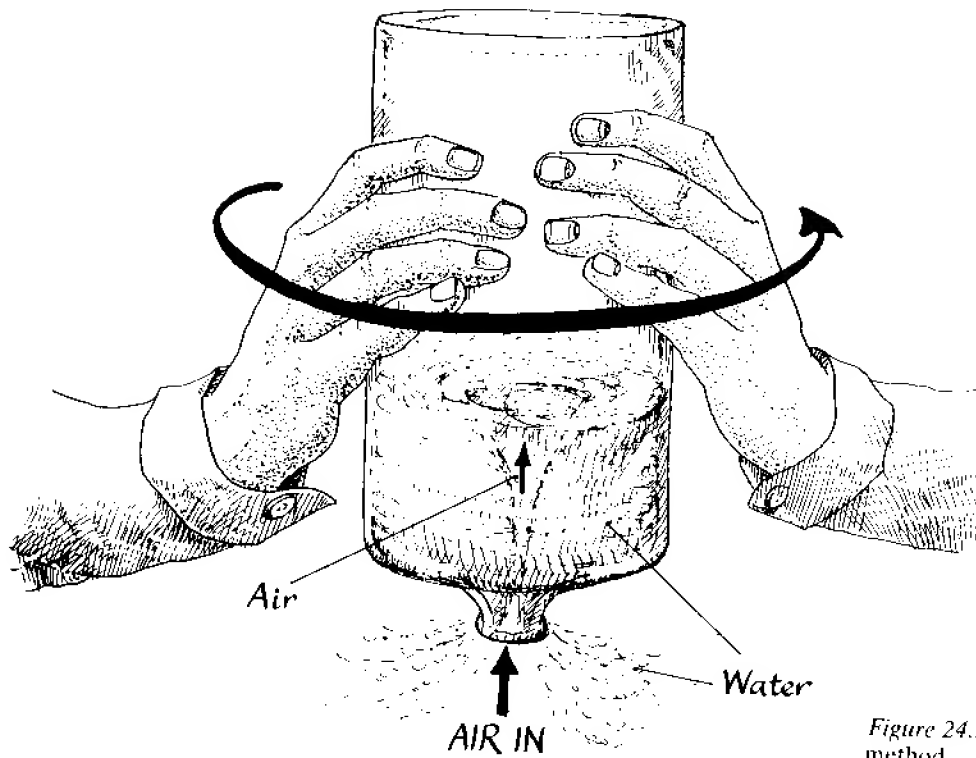

Figure 24.2 The whirlpool method
4. Turning the bottle upside down and turning it round and round several times until a whirlpool is formed in the bottle and then holding the bottle still (see Figure 24.2).